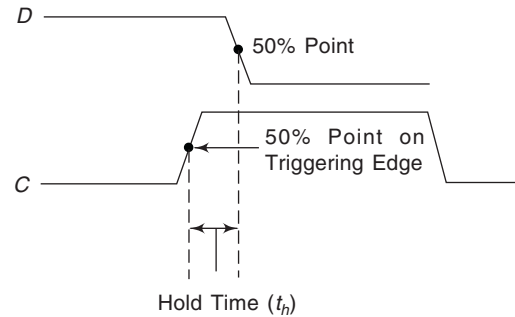

Fig. 12.52 Hold Time (t_h) for a D Flip-Flop.
3. *Hold Time* (t_h) is the minimum interval required for the control levels to remain on the inputs *after* the triggering edge of the clock pulse for the levels to be *reliably clocked* into the flip-flop (Fig. 12.52).